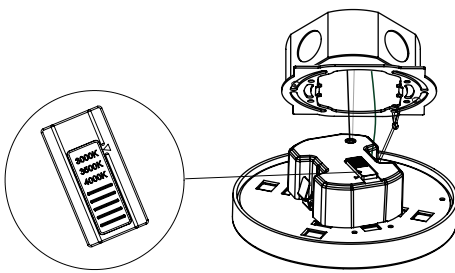

fig. 4
5. Adjust the color temperature to desired one, by sliding the orange selector switch, Make sure the switch is never in between positions. (fig. 4)